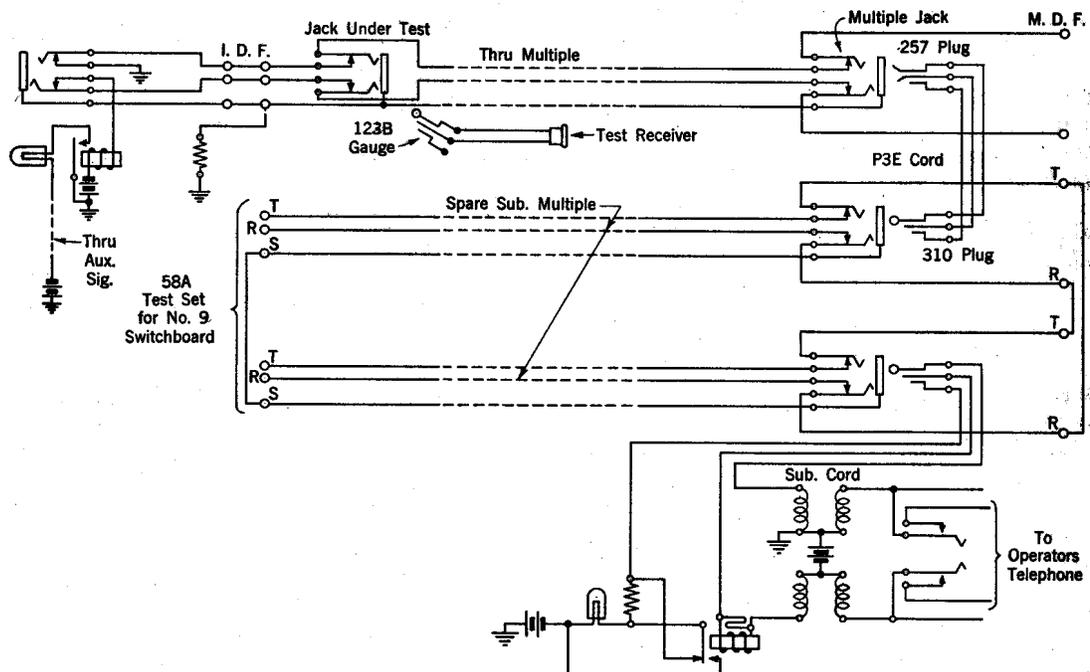

Fig. 3 - Test without a Test Circuit - Except First Jack
2.09 No. 58A Test Set or a testing circuit consisting of two multiple jack circuits connected together; tip to ring, ring to tip and sleeve to sleeve. Two spare O.G.T. or subscriber multiple jack circuits cross-connected at the distributing frames may be used. Fig. 3 shows the arrangement with two spare subscriber multiple circuits at a No. 10 switchboard. The No. 58A Test Set is more convenient at a No. 9 switchboard.
3.13 At an idle position toward the M.D.F. end of the circuit from the jack to be tested, connect a position cord to a jack of the test line or the No. 58A test set. See Fig. 3. (This figure shows the arrangement at a No. 10 switchboard.) Refer to 1.07.